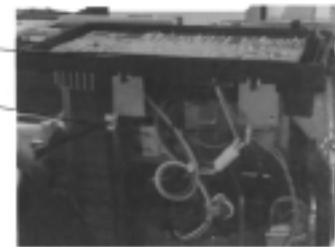
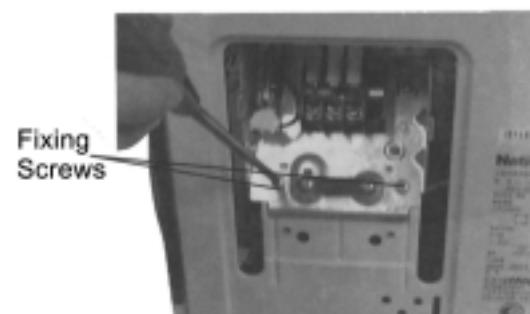

Fig 15
Fig 16
2. Release three fixing screws of C-BOX and all connectors and the C-BOX can be replaced. (**Fig 15** , **Fig 16** , **Fig 17** , **Fig 18**)